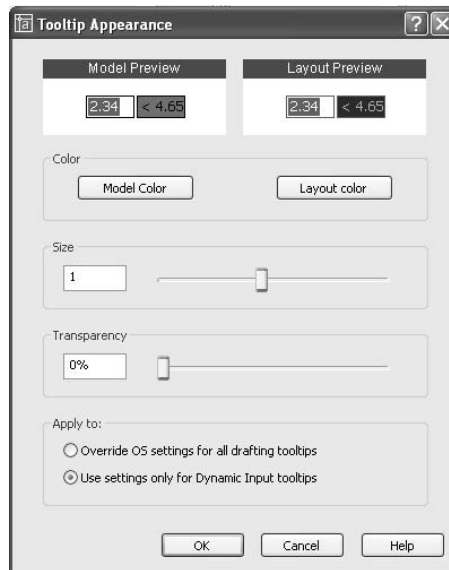

FIGURE 3.16: The Tooltip Appearance dialog box
5. In the Dynamic Prompts area of the Drafting Settings dialog box, click the Drafting Tooltip Appearance button to open the Tooltip Appearance dialog box (see Figure 3.16). In the Apply To area at the bottom of the box, be sure the Use Settings Only For Dynamic Input Tooltips radio button is selected. Vary the Color, Size, and Transparency settings according to your preference. (I used a setting of 1 for Size and 0% for Transparency. Don't worry about Layout Color for now. We'll come back to it in Chapter 13 where we work with Layouts.) The Model Color you choose will depend on whether your drawing area has a light or dark background. Experiment. When finished, click OK.